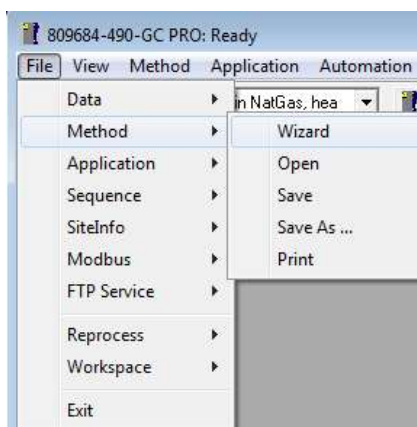

Figure 58: Activate Application wizard.
- Activate Application Wizard. Select: File\Application\Wizard, see Figure 58.
- Save Application, see Figure 58 (Save as option). Edit a proper application file name.